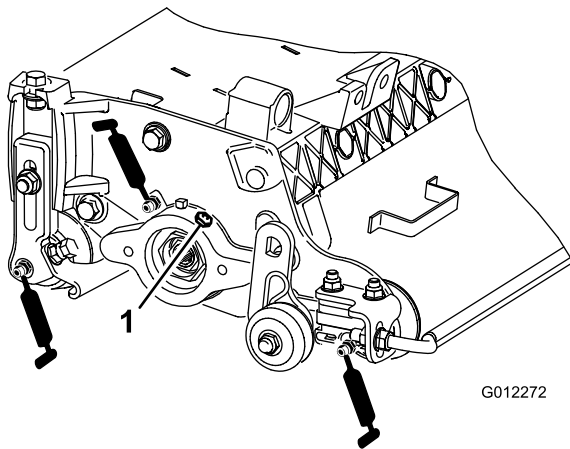

Figure 8
Each verticutter has 6 grease fittings (Figure 8) that must be lubricated weekly with #2 general-purpose, lithium-based grease.
2. Apply grease until you see clean grease coming out of the roller seals and the bearing relief valve (Figure 8).